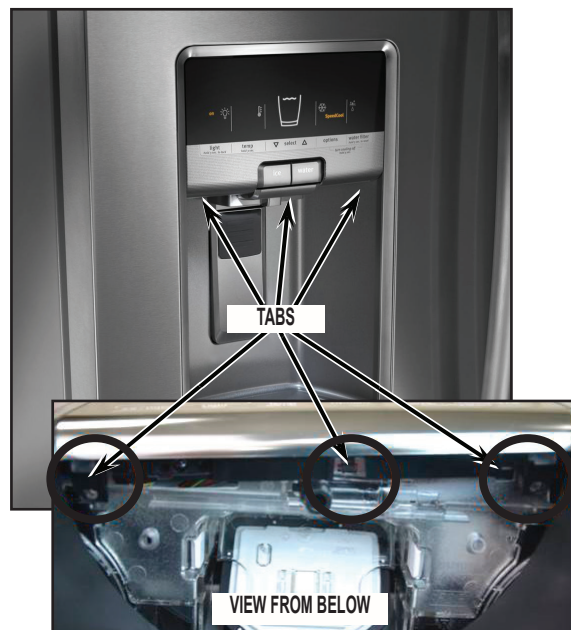

FIGURE 1
1. To remove user interface (UI) assembly, insert small screwdriver to depress black tabs on underside of UI in these 3 locations. See *Figure 1*.